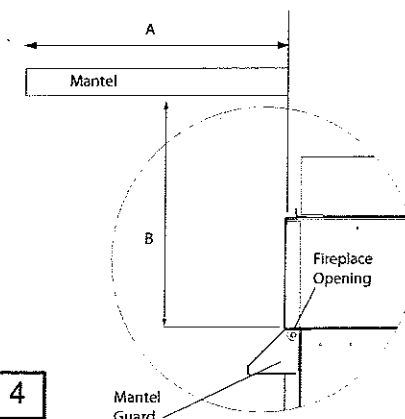

Fig. 4
- b) A heat reducing mantel guard is shipped with the fireplace. Use of this mantel guard is required in order to reduce mantel heights as shown in figure 6. When the mantel guard is installed, a combustible mantel piece may project 2" from the wall at 6" above the fireplace opening. A 6" mantel projection at 13" above the fireplace opening and a 10" projection at 22" above the opening. (Fig 4 and 7)
- c) If the fireplace has no mantelpiece, then the heat resistant material must extend upwards a distance of at least 9" from the fireplace opening. A mantel projection must be a minimum of 24" above the top fireplace opening if a mantel guard is not installed. (Fig. 4 and 5)